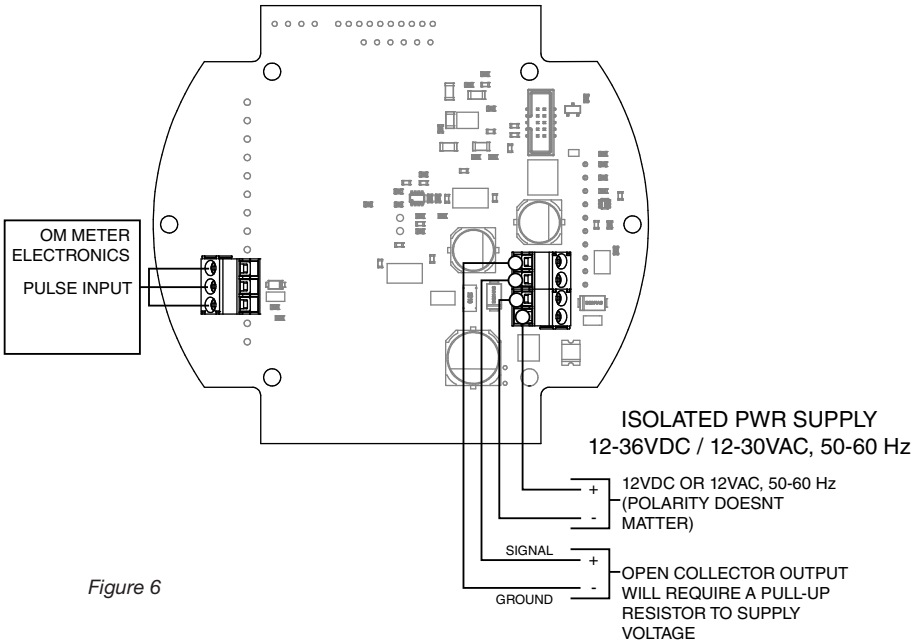

Figure 6
4. Install the O-ring received with the module in the O-ring gland on the bottom of the base; mount the base to the OM meter and secure with (4) metric screws provided with the module. Tighten screws.
6. Route the wiring from the meter up through the base and connect the wires to the QSB or QSI PC board screw connectors, (see Figure 6, 8, 12, or 14 depending on your module version).
9. Connect cable wires to the QSB or QSI PC board screw connectors (see Figure 6, 10, or 12 depending on your module version).
10. Mount the cover plate on the base making sure the seal is seated properly between them. Replace the (6) previously removed screws to secure the cover plate to the base. Tighten screws.